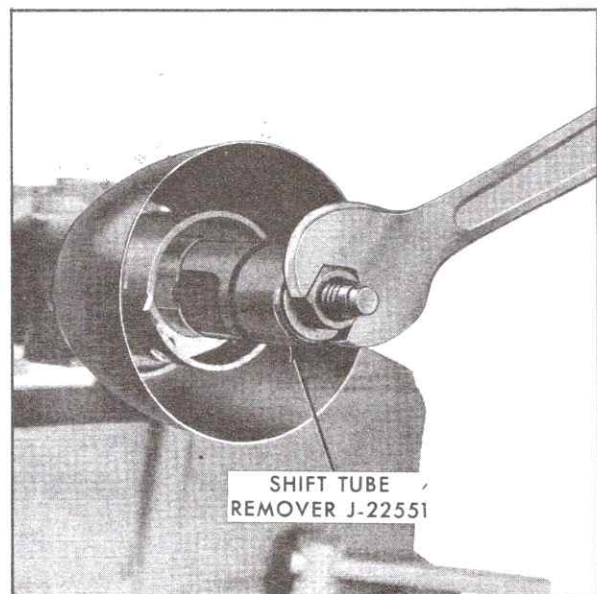

Fig. 9-52 Removing Shift Tube
28. Install Shift Tube Remover, J-22551, with blade on tool in notch in shift tube beneath the bowl key and with sleeve of tool engaging upper end of shift tube with notch on sleeve in line with bowl key. Align shift tube so that lower shift lever will not bind in T slot at bottom of jacket and press shift tube out of shift bowl by turning nut on Shift Tube Remover, Fig. 9-52. Do not hammer on shift tube to remove it.